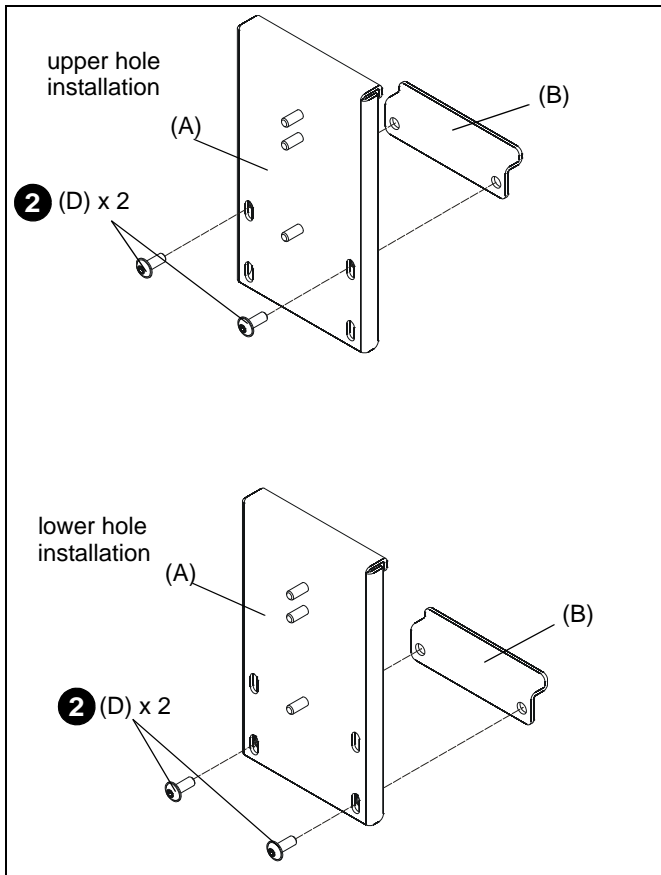

Figure 1
2. Install two #10-24 x 1/2" button head flange screws (D) through appropriate holes in main plate (A) and two holes in locking plate (B). Do NOT tighten screws! (See Figure 1)